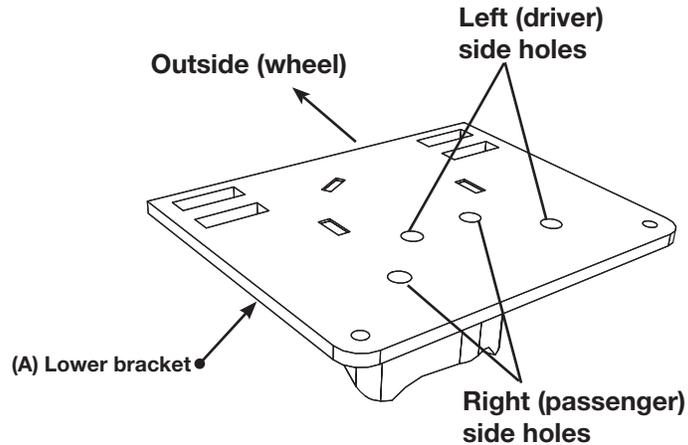

fig. 5
2. Install the swivel elbow fitting (AA) into the top of the bellows finger tight. Tighten the swivel fitting one and a half turns.
3. The lower bracket (A) has two sets of bellows mounting holes. Using the corresponding holes in the lower bracket designated (fig. 5), attach the bellows to the brackets using the 3/8" flat washers (U), lock washers (CC), and 3/8"-24 x 7/8" hex head cap screws (BB). Tighten both mounting screws securely.